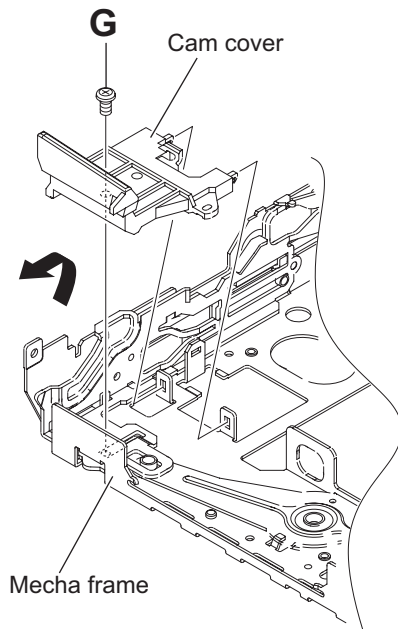

Fig.11
### 3.2.6 Removing the slide cam (L) (See Fig.11 to 13)
- From the top side of the mecha frame, remove the screw **G** attaching the cam cover. (See Fig.11.)
- Take out the cam cover from mecha frame in an upward direction. (See Fig.11.)